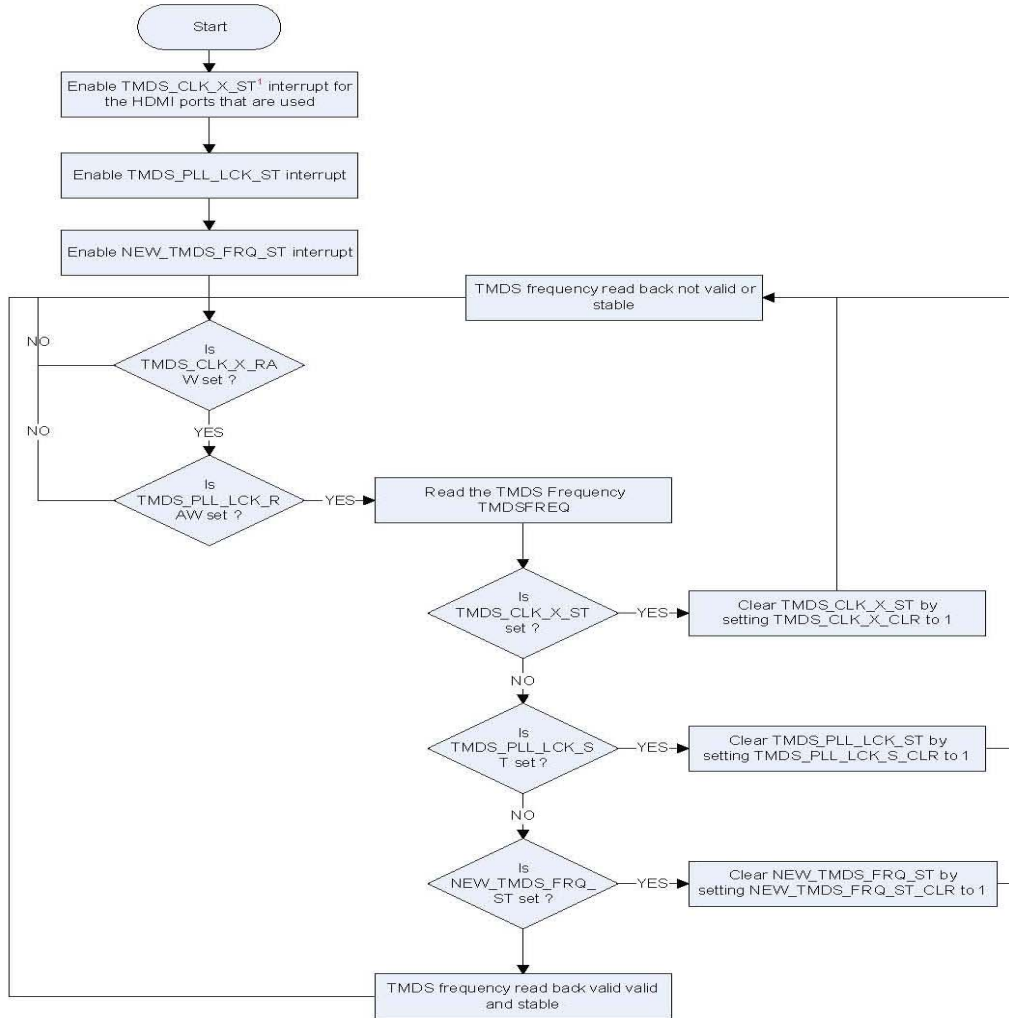

Figure 73: Monitoring TMDS Clock Frequency
- The TMDS PLL lock status can be monitored via TMDS_PLL_LOCKED. Figure 73 shows the algorithm that can be implemented on an external controller to monitor the TMDS clock frequency.